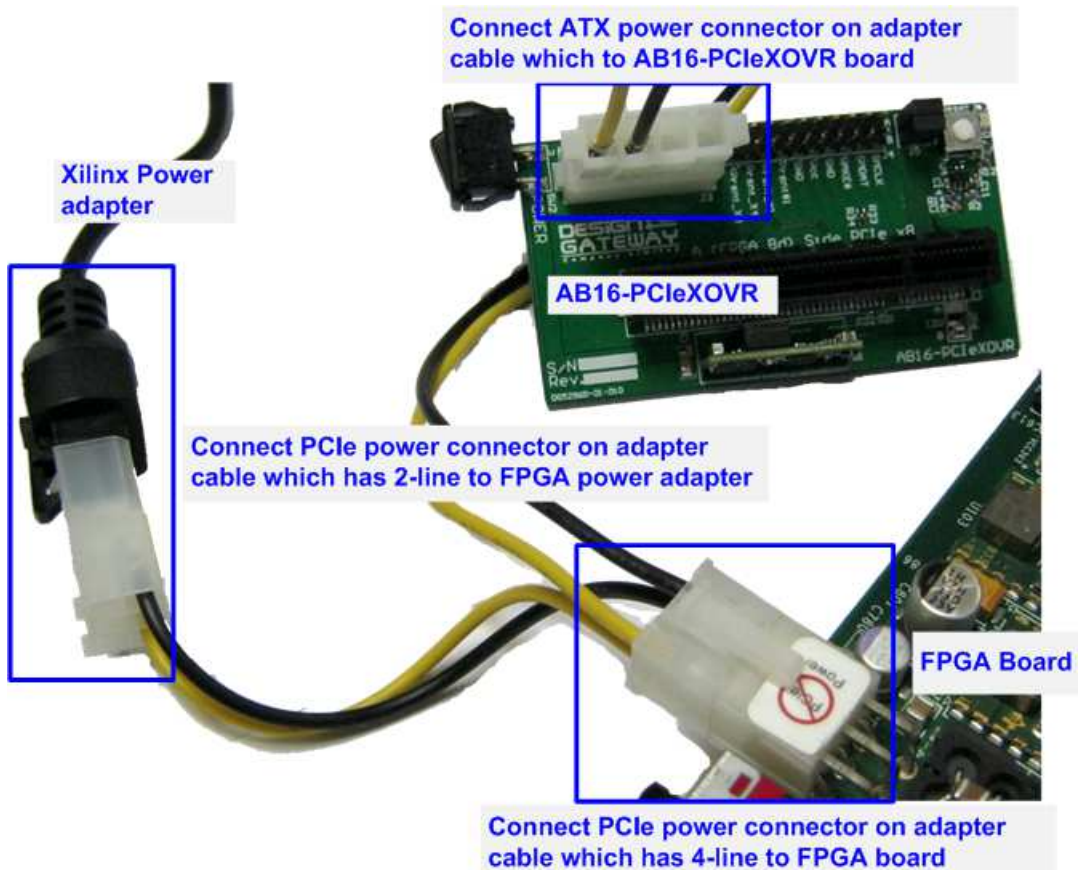

Figure 2-3 Connect power adapter cable to FPGA board, AB16, and Xilinx adapter
- 3) Connect power adapter cable from AB16-PCIeXOVR delivery set to power connector on FPGA board, AB16-PCIeXOVR board, and Xilinx power adapter as shown in Figure 2-3.